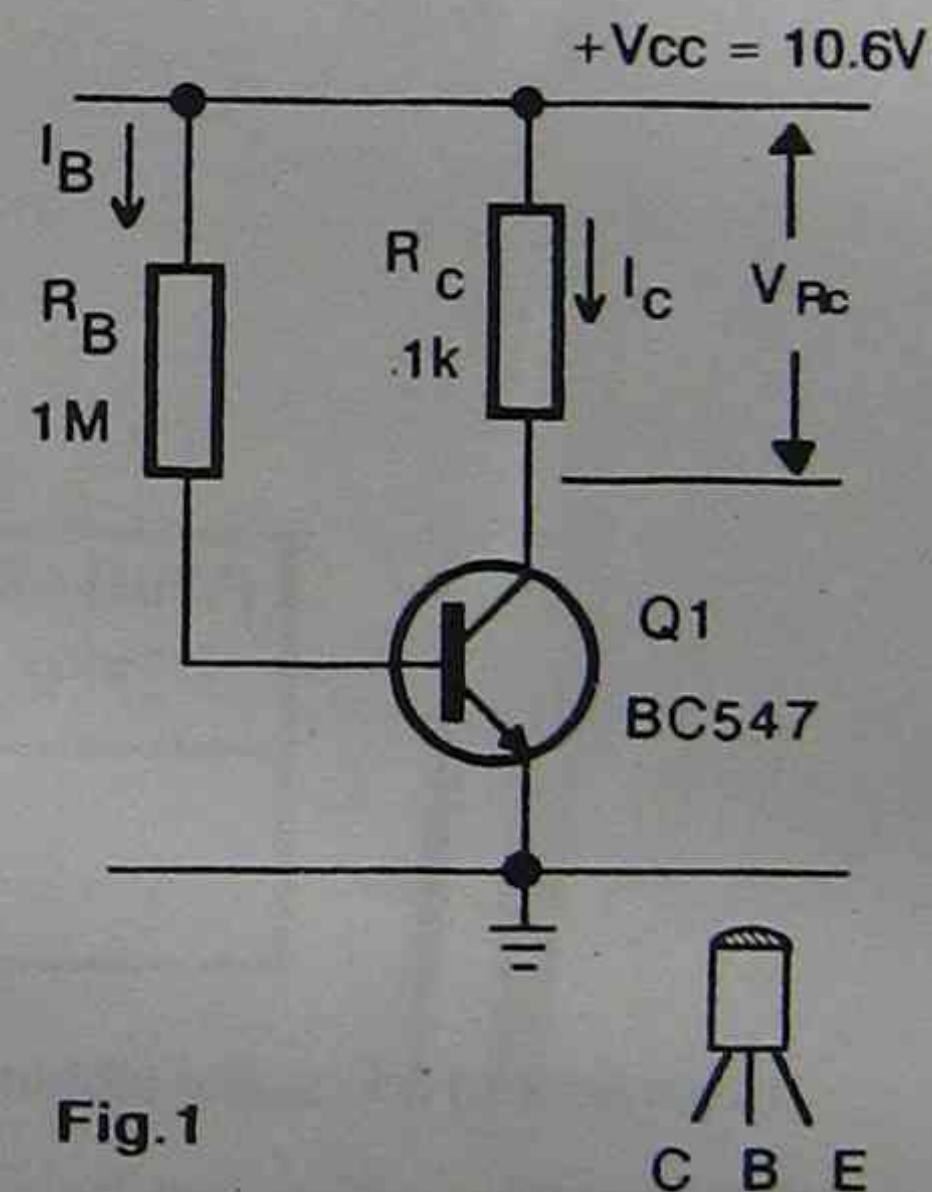

Fig.1
- Construct the circuit of Fig.1, which will be used to measure the DC current gain (β) of a number of BC547 transistors. Set the DC supply voltage to 10.6V.